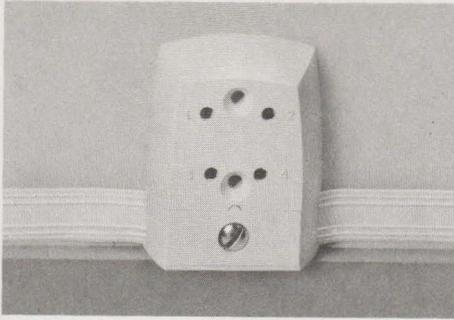

Fig. 10—No. 719 Jack
- (1) Install the jack (Fig. 10) in the same way as the No. 717 terminal.
- (2) When wire run ends in jack, do not extend the wire and fold back. Cut off wire so it does not extend beyond cover of wire channel.